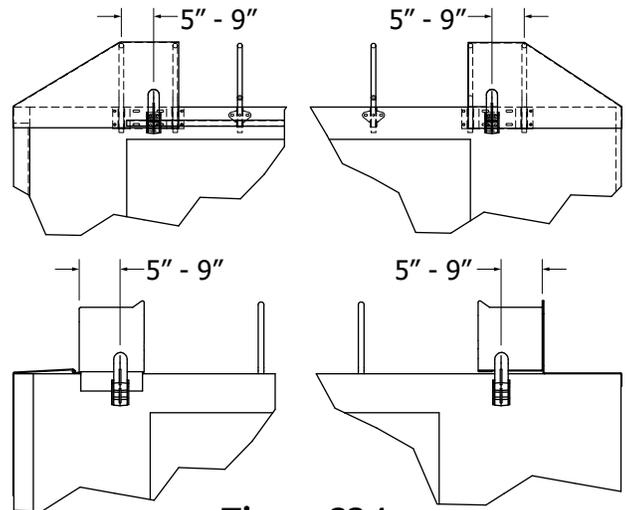

Figure 23-1
1) **Figures 23-1 & 23-2.** Locate first roll stop bracket 5"-9" from the first bow and 1" down from top rail.
2) **Figures 23-1 & 23-2.** Drill a pilot hole and attach with 3/8 x 1 type F HWH bolts.
2) **Figures 23-1 & 23-2.** Locate roll stops the same distance from the bows as in **Step 4.1** and 1" from top of sideboard.